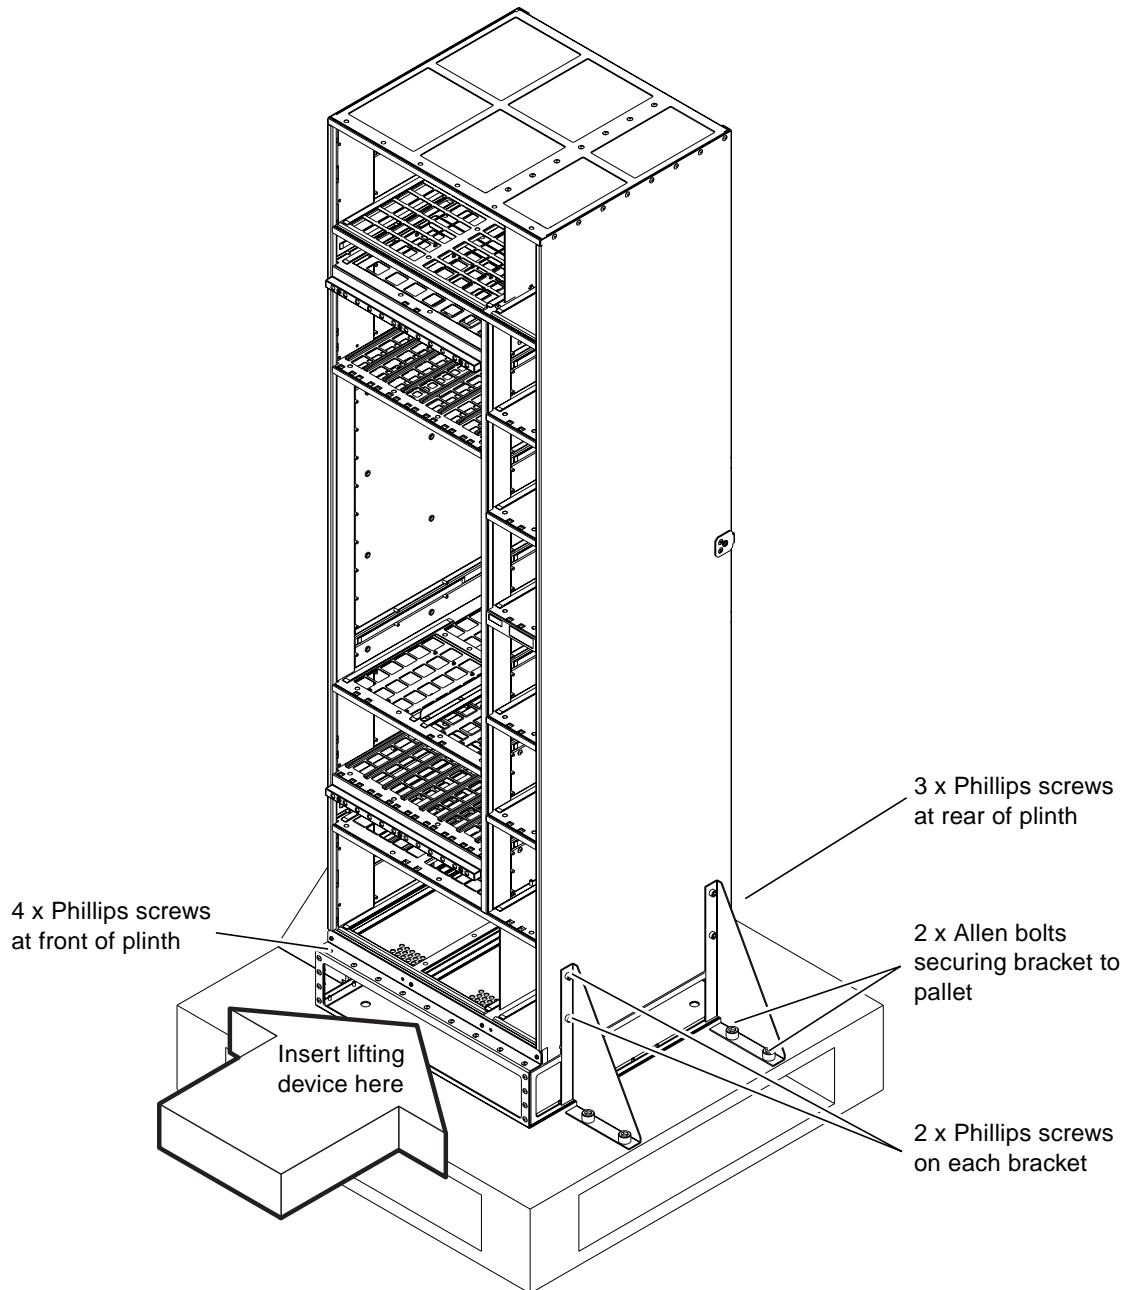

FIGURE 2-1 Shipping Brackets and Sacrificial Plinth
- 2. Using the Phillips No.2 screwdriver (supplied), remove the two Phillips screws securing the four red brackets (two on each side) to the chassis (see FIGURE 2-1).**